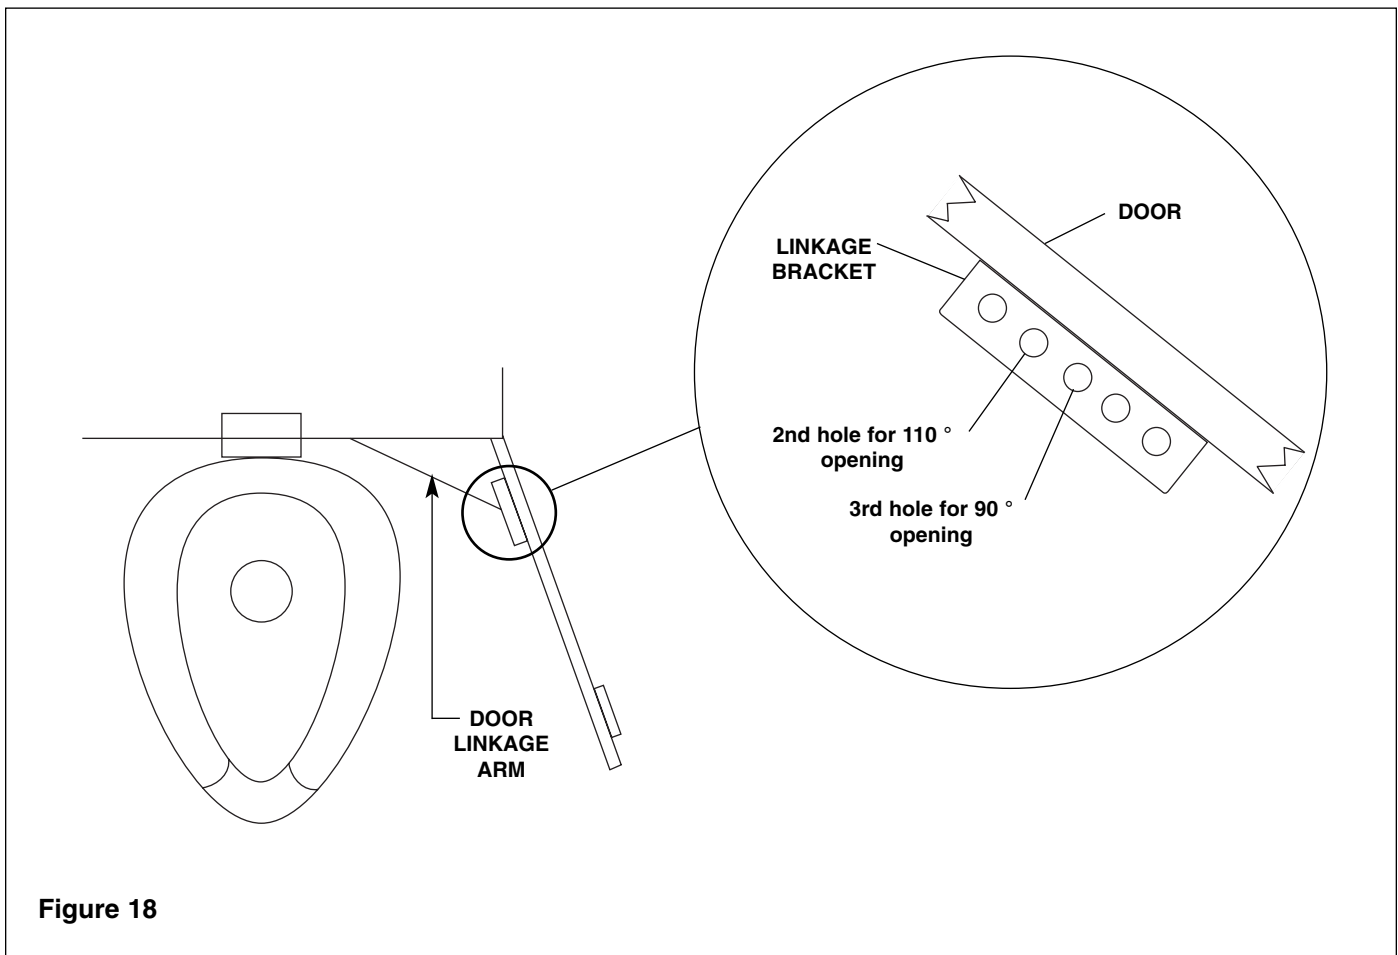

Figure 18
1. Reinstall the door linkage by loosely fastening the door linkage rod with the supplied nut onto the linkage bracket (see Figure 18).
2. Close the door. If the water closet contacts the back wall before the door closes, adjust the door linkage by turning the door linkage rod so that the door closes before the water closet comes in contact with the back wall (see Figure 18). If no adjustment is needed, tighten the nut securely on the linkage bracket.
*NOTE: The linkage arm has a factory-set length. When the door linkage is fastened to the linkage bracket, the door will open 110 degrees. If the PATIENT CARE UNIT is installed against a corner wall, make sure the door does not come in contact with the wall, or the water closet does not come in contact with the back wall when the door is opened or closed. Make adjustments, if necessary, and refer to Figure 18 with inset.*